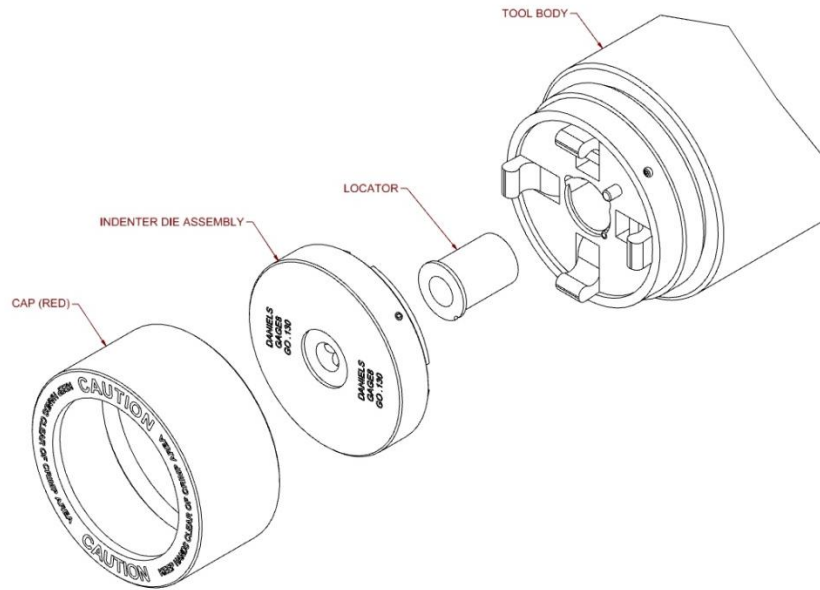

Figure 1
1. Unscrew the red cap and remove die assembly, if installed. Insert the locator in the center hole, See Figure 1.
1. Place the indenter die assembly, as shown in Figure 1, onto the tool body. The die assembly alignment pin, See Figure 3, must fit into the corresponding hole in the die assembly. Place the red cap over the die assembly, See Figure 1, and tighten fully to hold the assembly flush with the tool body.